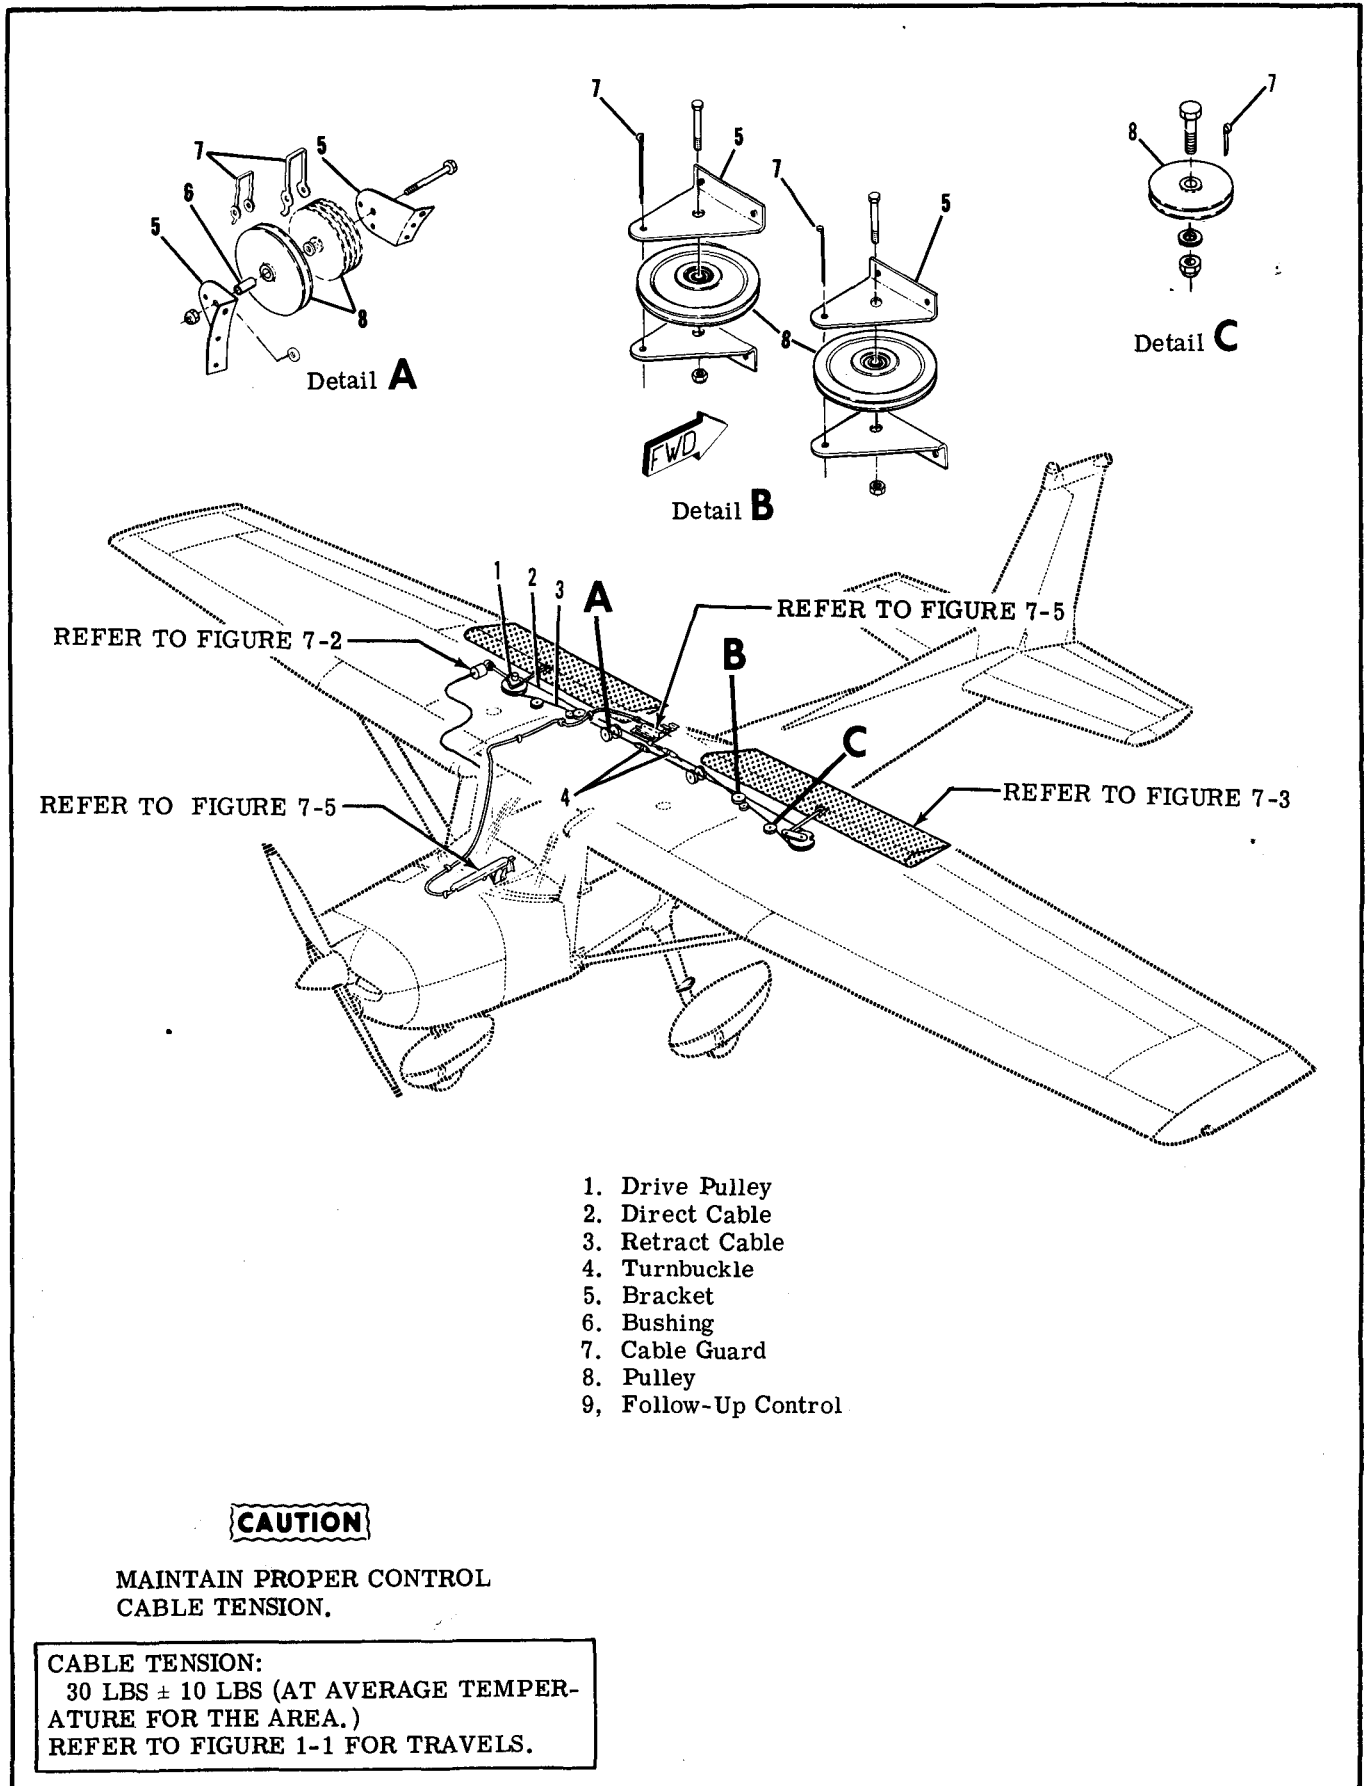

Figure 7-1. Wing Flap Control System
7-1. WING FLAP CONTROL SYSTEM. (Refer to figure 7-1.)
- a. Remove access plate adjacent to drive pulley (14) in right wing.
- b. Unzip or remove headliner as necessary for access to turnbuckles (index 4, figure 7-1), remove safety wire and loosen turnbuckles.
- c. Remove bolt (20) securing flap push-pull rod (15) to drive pulley (14) and lower RIGHT flap gently.
- d. Remove bolt (21) securing actuating tube (5) to drive pulley (14) and lower LEFT flap gently. Retain bushing.
e. Remove cable locks (13) securing control cables to drive pulley (14). Tag cables for reference on reinstallation.
f. Remove bolt (12) attaching drive pulley (14) to wing structure.
- b. Remove access plates (1) from top leading edge of flap.
- c. Disconnect push-pull rod (6) at flap bracket (7).
- d. Remove bolts (5) at each flap track. As flap is removed from wing, all washers, rollers and bushings will fall free. Retain these for reinstallation.
- e. Reverse the preceding steps for reinstallation. If push-pull rod (6) adjustment is not disturbed, rerigging of system should not be necessary. Check flap travel and rig in accordance with paragraph 7-16, if necessary.
**7-14. CABLES AND PULLEYS.** (Refer to figure 7-1.)
- a. (Refer to figure 7-1.) Unzip or remove headliner as necessary for access to turnbuckles (4).
- c. (Refer to figure 7-1.) Remove safety wire, relieve cable tension, disconnect turnbuckles (4) and carefully lower left flap.
Temporarily connect cables at turnbuckles (index 4, figure 7-1) and test flaps by hand to ensure both flaps extend and retract together. If they will not, the cables are incorrectly attached to the drive pulleys. Ensure that the right drive pulley rotates clockwise when viewed from below, as the flaps are extended. Tag cables for reference and disconnect turnbuckles again.